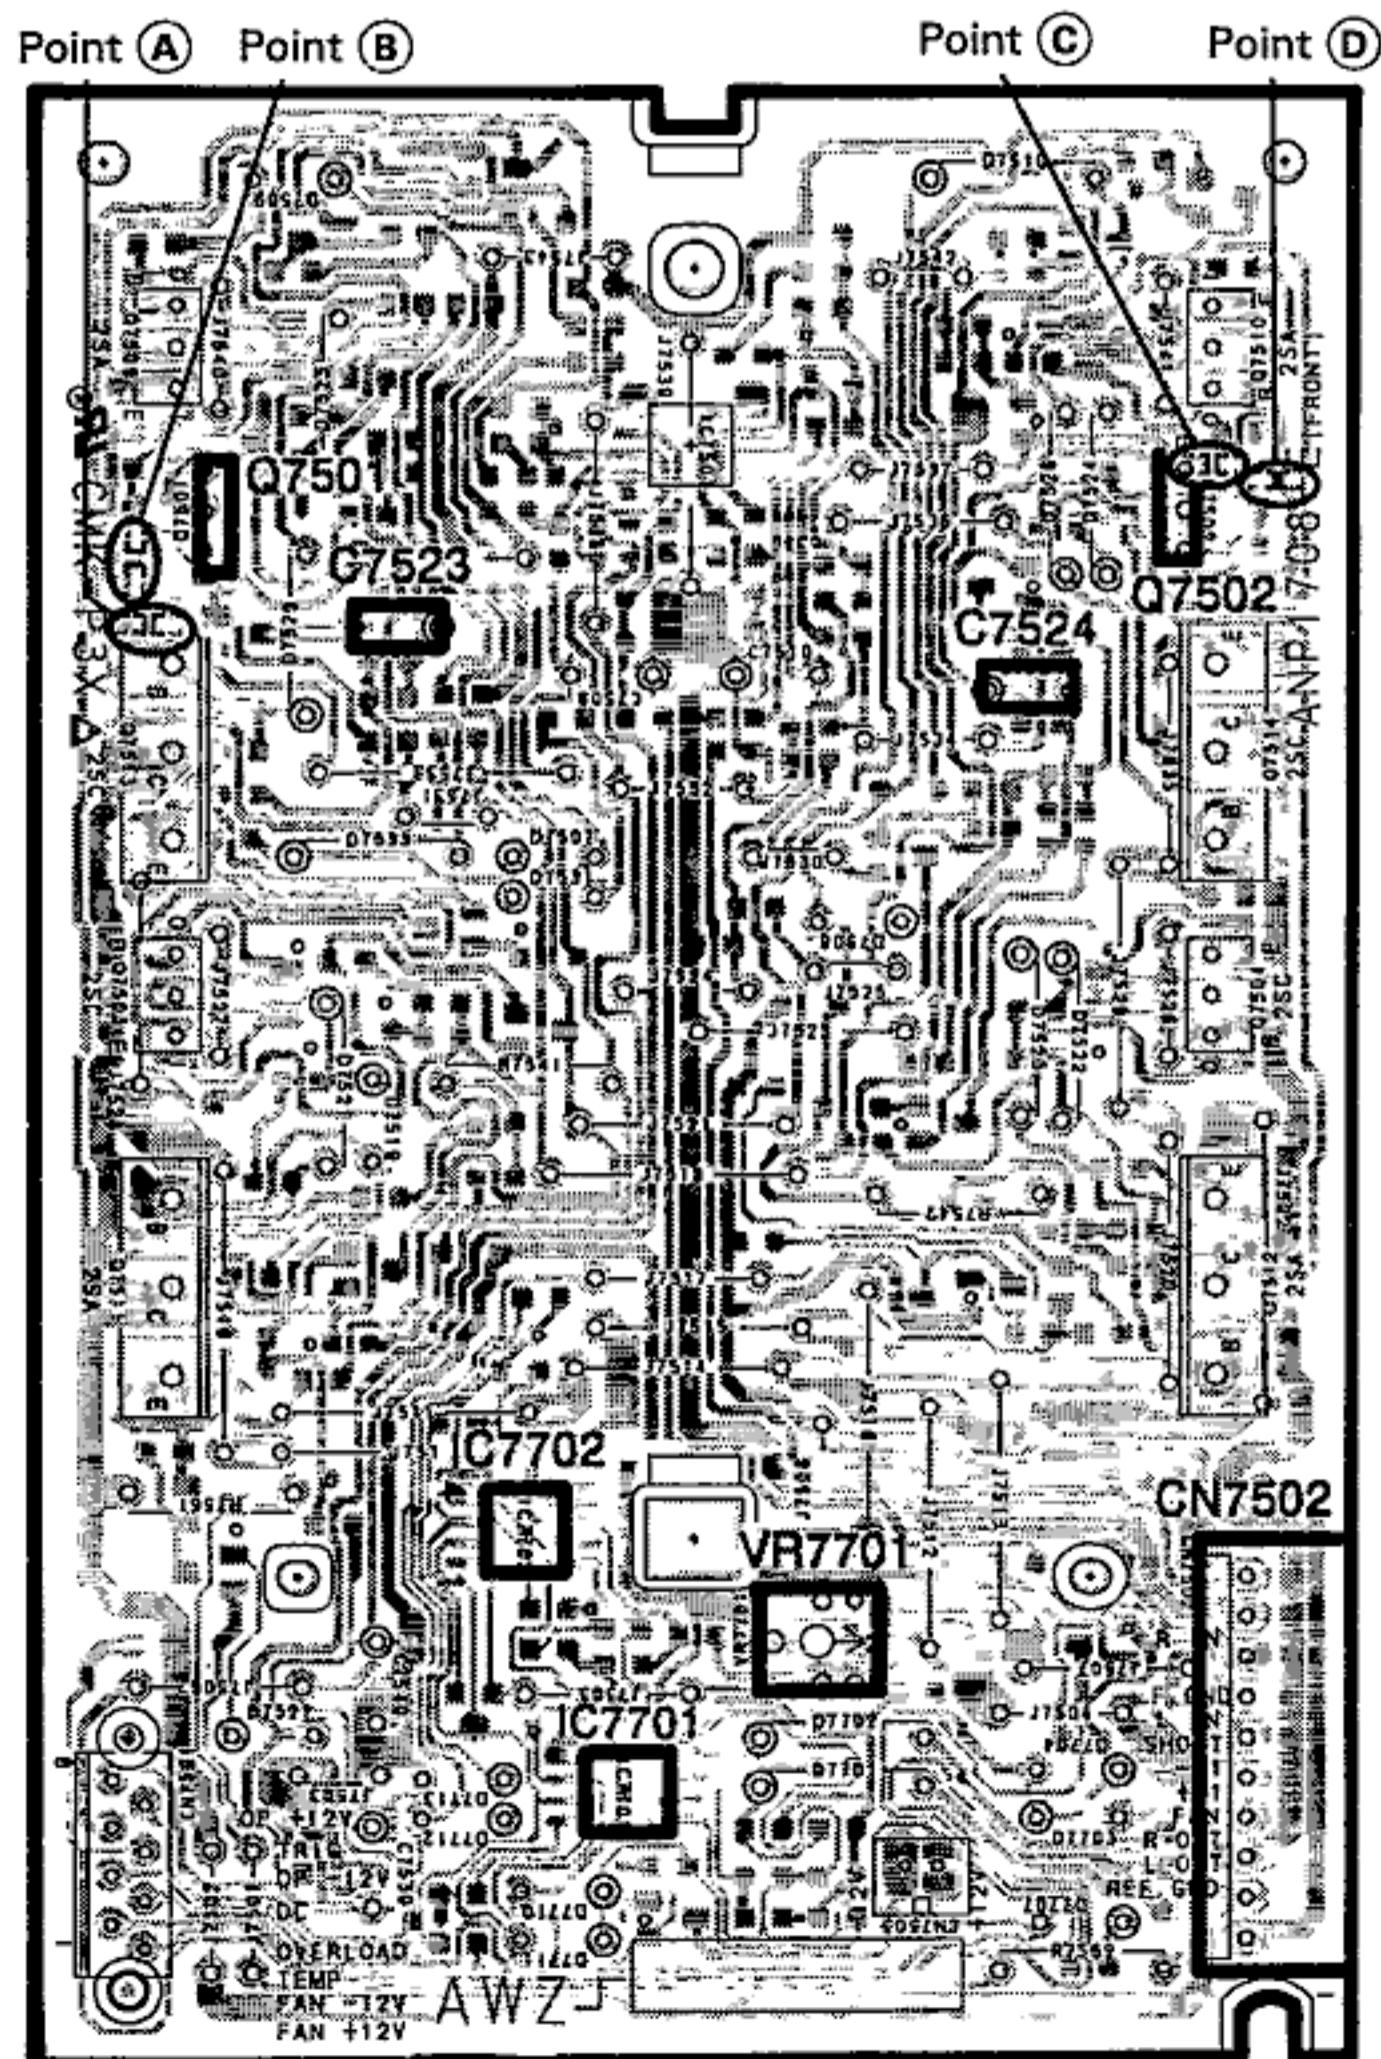

Fig. 4-2-3 FRONT ASSY FOR 100W
1. Connect a voltmeter between TEMP and TP (or between IC7702 terminals No.3 and 2). (Refer to Figs. 4-2-3 and 4-2-6.)